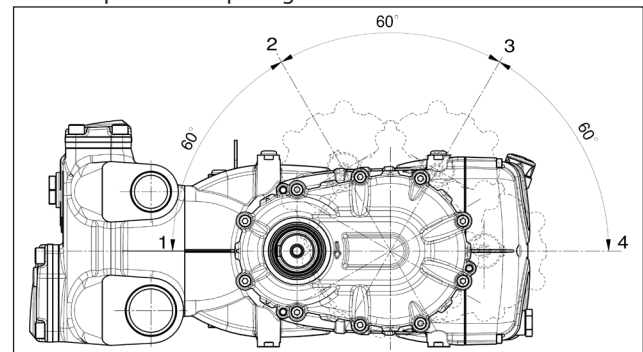

Fig. 6
~ 4.8 litres for versions with a reduction unit in pos. ① and ④ (Fig. 6). This amount will be slightly lower for pos. ② and ③.
In addition it is possible to position the reduction unit in 4 different positions as per Fig. 6.